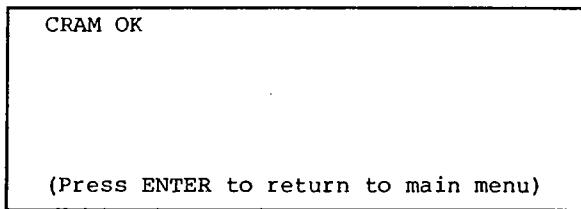

Fig. 5-11
2. If the CRAM function is normal, the LC-display will indicate the message as shown in the Fig. 5-11. If "ERROR" is displayed, the function is abnormal. Check its circuit and the LSI.